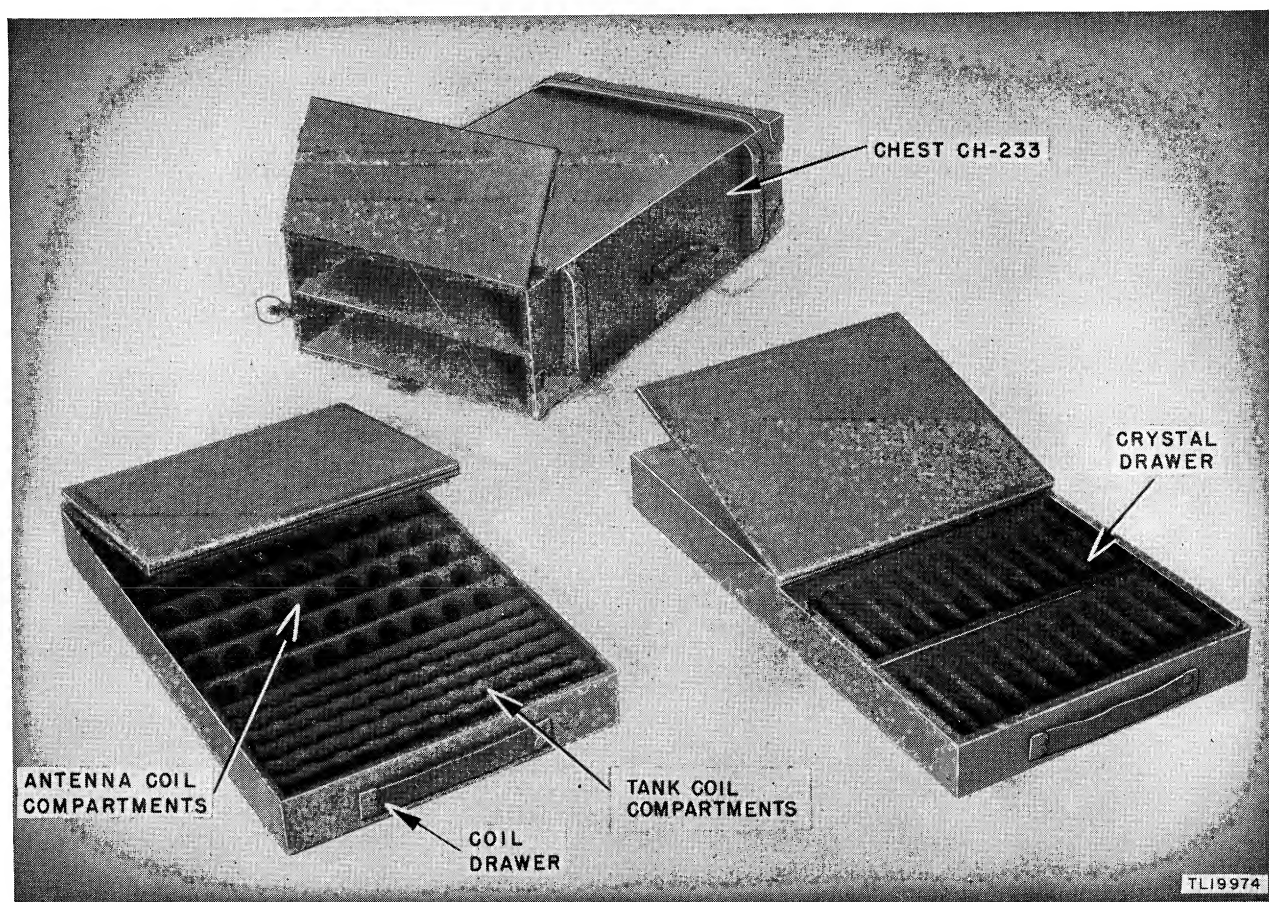

Figure 47. Chest CH-233.
a. GENERAL. Frequency Conversion Kit MC-534 consists of Chest CH-233 which contains 400 Crystal Holders FT-243, 72 ANTENNA coils L1, and 60 TANK COILS, L2. (See fig. 47.) These com-